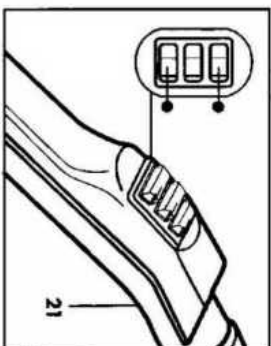

Fig. 19
To stop the appliance, turn the steam and suction control switches on the handle (21) to the off position (**Fig. 19**); move the switches on the appliance to the off position and disconnect the plug from the socket.